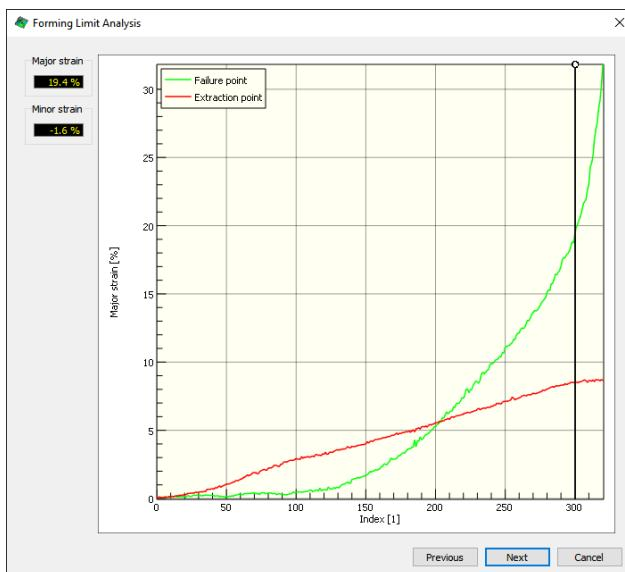

Figure 3.
6. After the user clicks **Next**, the ϵ_1 vs time graphs are shown for the two points. The software automatically attempts to determine the correct point in the time sequence for strain extraction based on a change in slope of the extraction point as shown in figure 3. However, the user can change this point by dragging the white dot on top of the vertical bar left and right.